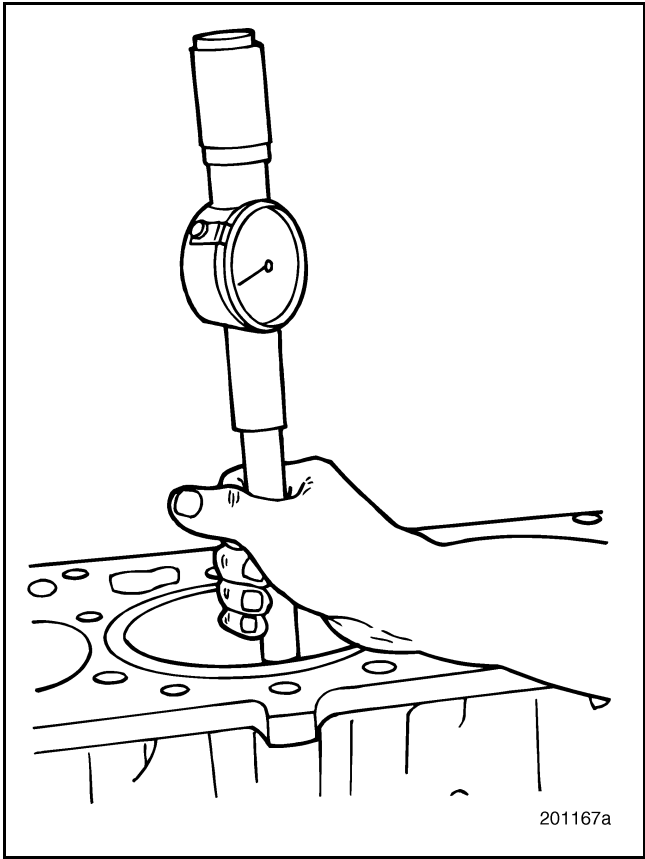

Figure 212 — Checking Cylinder Sleeve for Out-of-Round or Taper
7. Using dial bore gauge J 5347-B, or equivalent, check the cylinder sleeve for out-of-round and taper limit (Figure 212). Take readings in two directions, 90 degrees apart, at each of three levels.